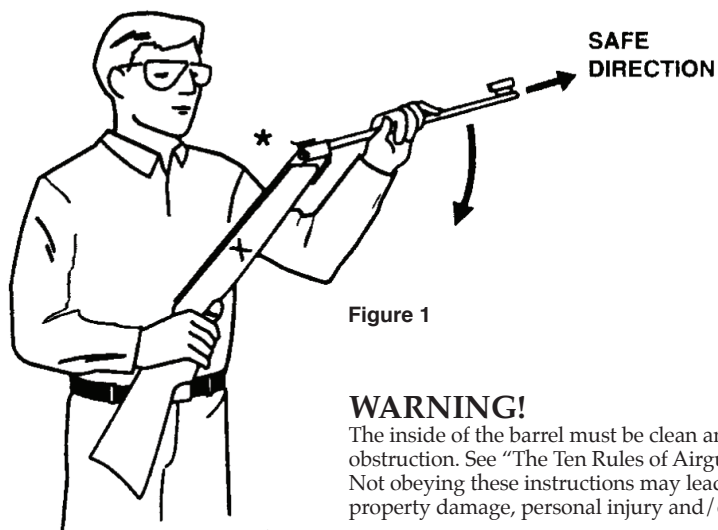

Figure 1
3. With one hand, hold the stock at the pistol grip or middle of the forearm (marked by X). Holding the air rifle firmly, tap barrel behind the front sight in order to break the locked position. See Figure 1.
2. With one hand, hold the stock at the pistol grip or middle of forearm (marked x in the Figure 1).
3. Holding the airgun firmly with one hand, tap barrel behind the front sight in order to break open the barrel, but do not cock the airgun. See Figure 1.
8. Break open the action. See Figure 1.